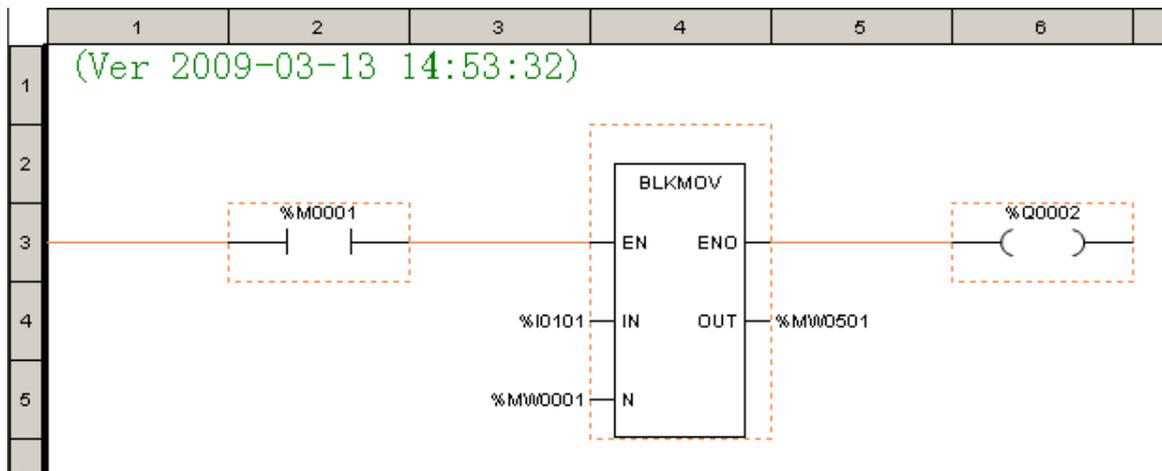

Fig.2.18 Select all operation
**【Select All】** : Select all of the contents in the current editing area. As shown in Fig.2.18: